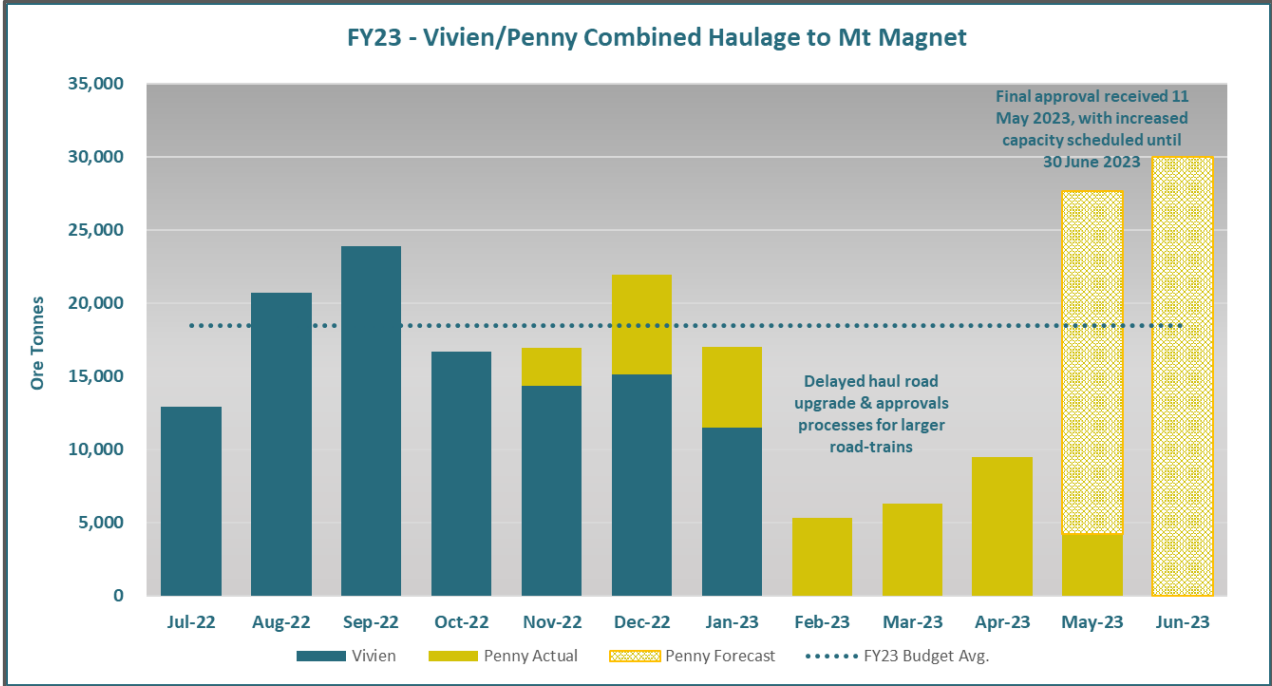

Figure 1: Ore haulage tonnes to Mt Magnet
- Haulage schedule in place to clear site stockpile by 30 June 2023 (refer Figure 1)